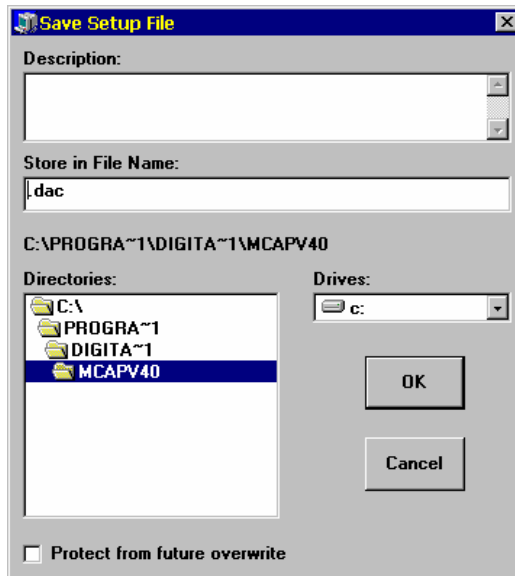

Figure 4-64 Store Setup File Window
1. Click on **File** on the Master Control menu bar. When the pulldown menu appears, click on **Save Setup File**. This will cause the window in Figure 4-64 to appear: